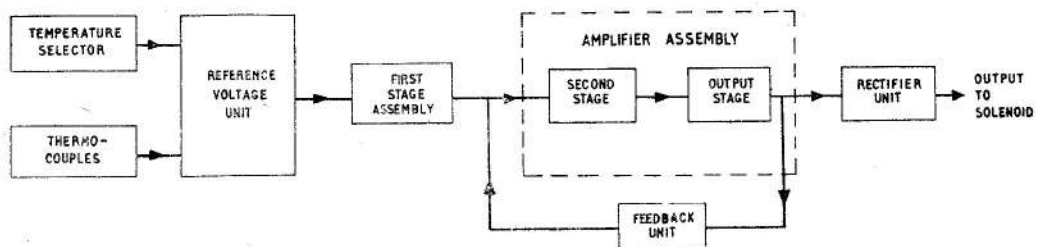

Fig. 3. Block diagram of amplifier
4. The reference voltage is derived from a resistance network, supplied by transformer TR5 to the rectifiers assembly and stabilized by the neon V1 (fig. 3 and 5). One arm of the resistance network includes the temperature selector, the value of which is chosen to provide the correct operating temperature for the system. The thermocouple voltage is compared with the reference voltage and the resultant signal is applied to the control winding of transducer X2 in the first stage of the amplifier. There is no input in the amplifier when the thermocouple e.m.f. balances the reference voltage. A resistor R14 across the thermocouple terminals prevents maximum fuel delivery to the engine in the event of the thermocouples becoming open-circuited. The resistors forming the voltage reference network include a cold junction compensator R13, to allow for changes in ambient temperature of the